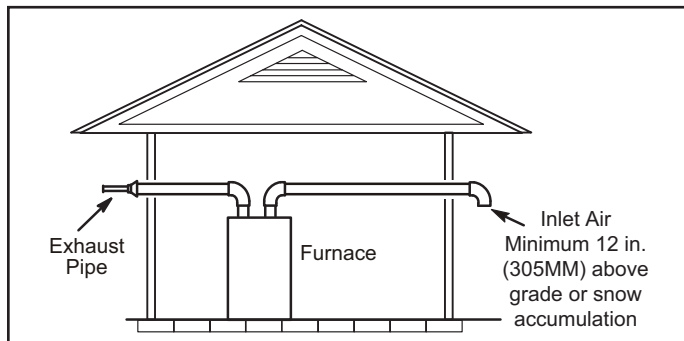
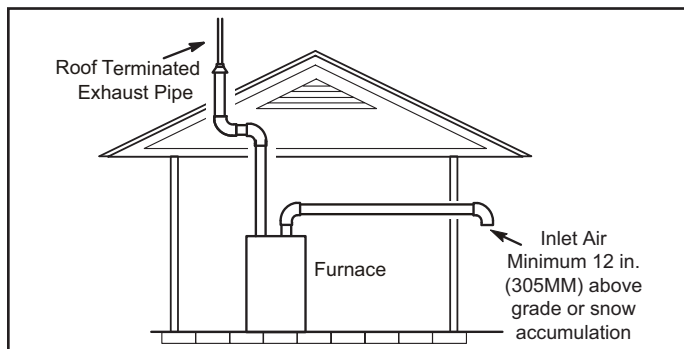

Figure 23. Exiting Exhaust and Intake Vent (no common pressure zone)
Figure 24. Exiting Exhaust and Intake Vent (no common pressure zone)
Intake and exhaust pipes may be routed either horizontally through an outside wall or vertically through the roof. In attic or closet installations, vertical termination through the roof is preferred. Figure 23 through Figure 37 show typical terminations.
1. Intake and exhaust terminations are not required to be in the same pressure zone. You may exit the intake on one side of the structure and the exhaust on another side (Figure 23). You may exit the exhaust out the roof and the intake out the side of the structure (Figure 24).